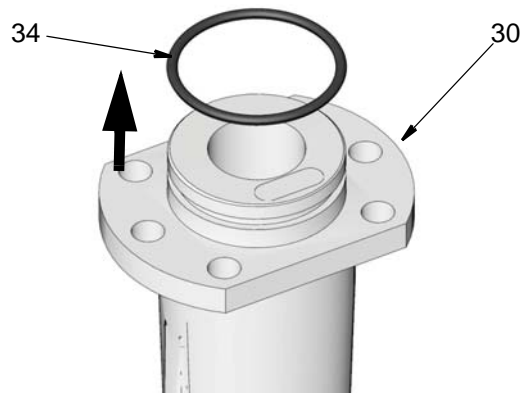

FIG. 47
- a. Use a pick to remove o-ring (34) from outlet (30) (FIG. 47).